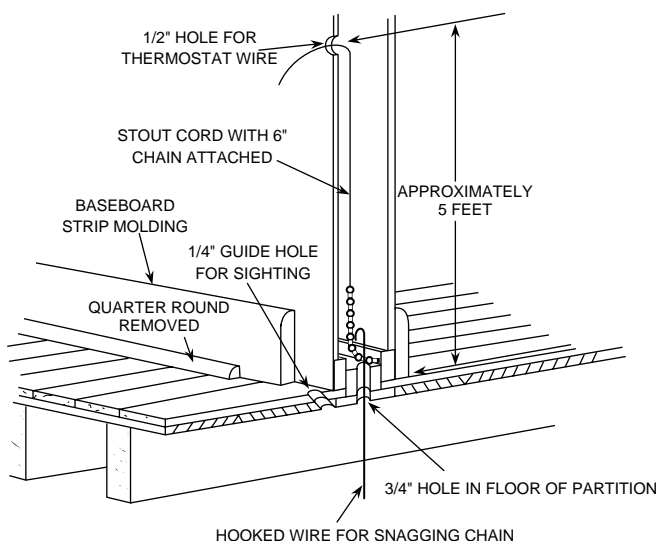

Figure 1. Routing Thermostat Wires
3. Probe for obstructions in partition before drilling 1/2" hole in wall at selected location. Take up quarter round and drill a small guide hole for sighting (see Fig. 1). From basement, drill 3/4" hole in partition floor next to guide hole. In houses without basements, drill 1/2" hole through ceiling and into partition from above (see Fig. 1).